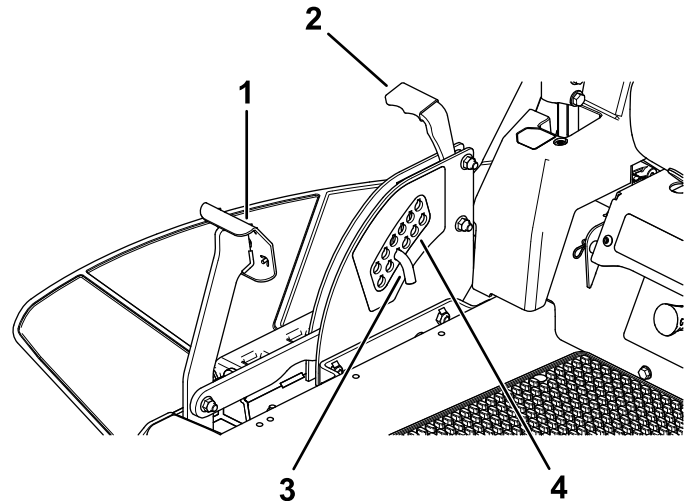

Figure 29
3. Select a hole in the height-of-cut system corresponding to the desired height of cut and insert the pin (Figure 29).
1. Push on the deck-lift pedal with your foot and raise the mower deck to the transport-lock position (also the 114 mm (4-1/2 inches) cutting height position) as shown in Figure 29.
2. To adjust, remove the pin from the height-of-cut bracket (Figure 29).